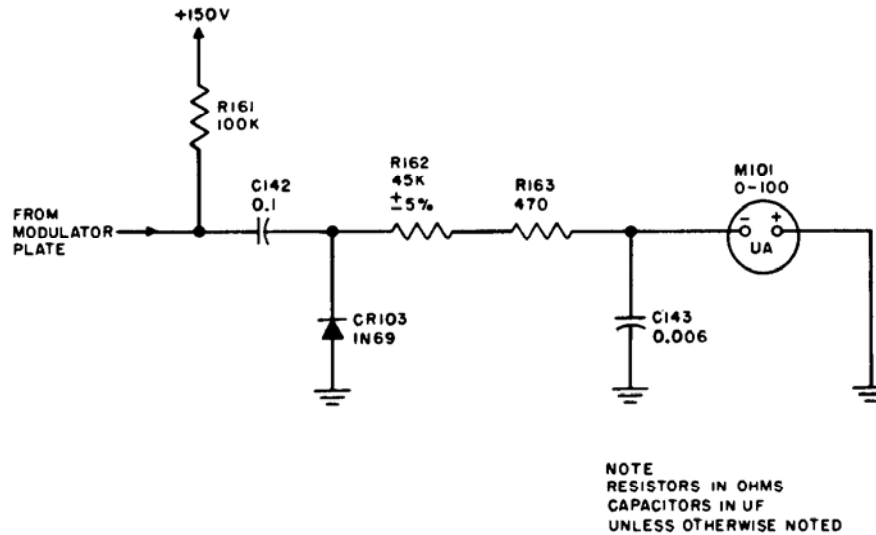

Figure 2-12. Modulation Metering Simplified Schematic
(See figures 2-12 and 2-13.)
c. Figure 2-12 shows the modulation meter circuit which is effective in the MOD positions (3, 4, and 5) of the FUNCTION SWITCH. The circuit determines the percentage of modulation indirectly by measuring the amplitude of the audio signal. (To determine the modulation percentage directly, the amplitude of the envelope would have to be measured.) MOD METER ADJ, R158, located in the cathode of the preceding modulator stage, sets the actual percentage of modulation to conform with the meter scale calibration.